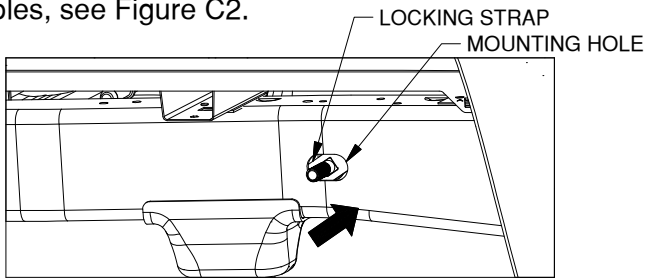

Figure C2: View looking into driver side wheel well.
1. **Install carriage bolts.** Each side plate is attached to the frame with the help of a locking strap. To begin, locate mounting hole in the frame, attach the carriage bolts to the locking straps by passing the bolts through the straps. Insert the locking straps through the holes in the frame until they are completely inside the frame and only the carriage bolt is passing through the holes, see Figure C2.